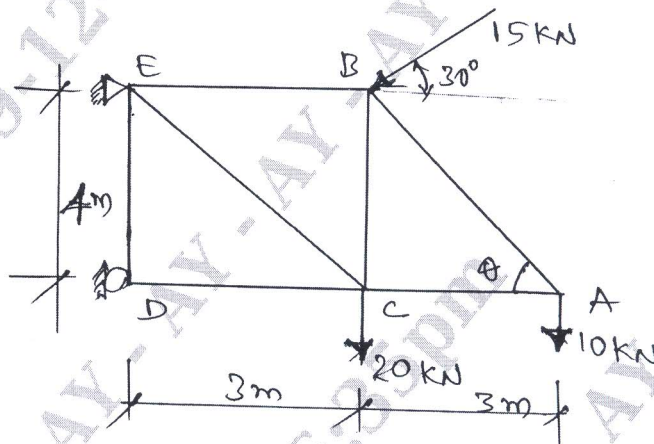

Fig.Q1(c)
- c. Find the forces in all members of the pin jointed truss shown in Fig.Q1(c) by method of joints.